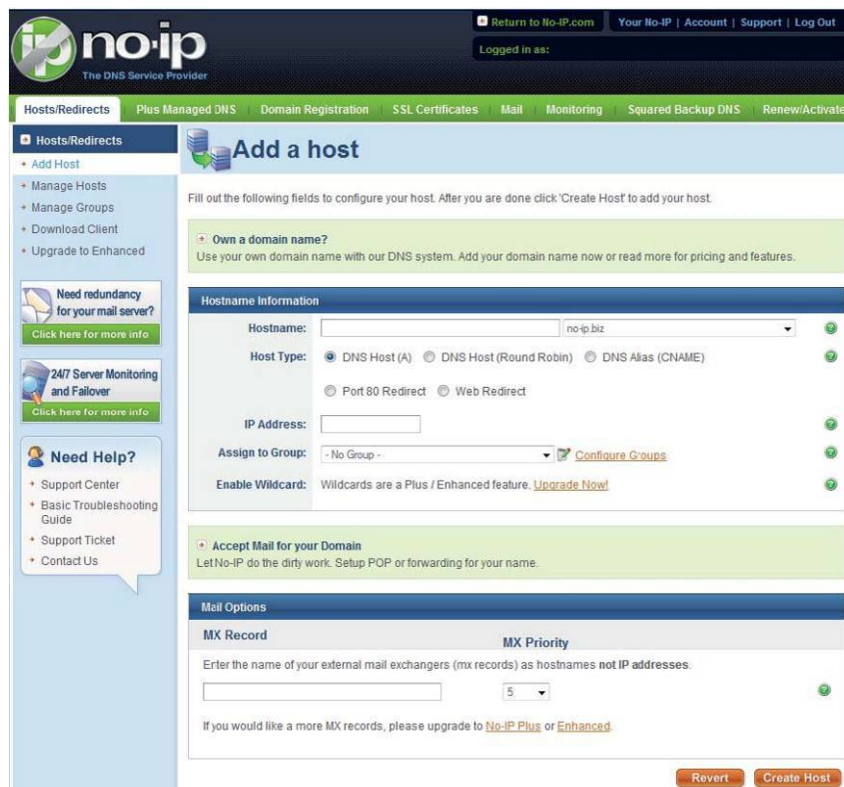

Figure 14-8
8. In Figure 14-8, input corresponding host name in the field. You can use this name to access device from an external network. In the field to the right of the name, select the desired area. This is your domain name for access to the device. Click "Create Host" button at the bottom of the page.